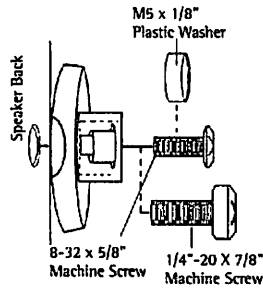

Figure 3
- Check the size of the hole and make sure the 8-32 x 5/8" machine screw, the 1/4"-20 x 1/2" machine screw, the 1/4"-20 x 7/8", or the M5 x 20mm fits inside (Figure 3).